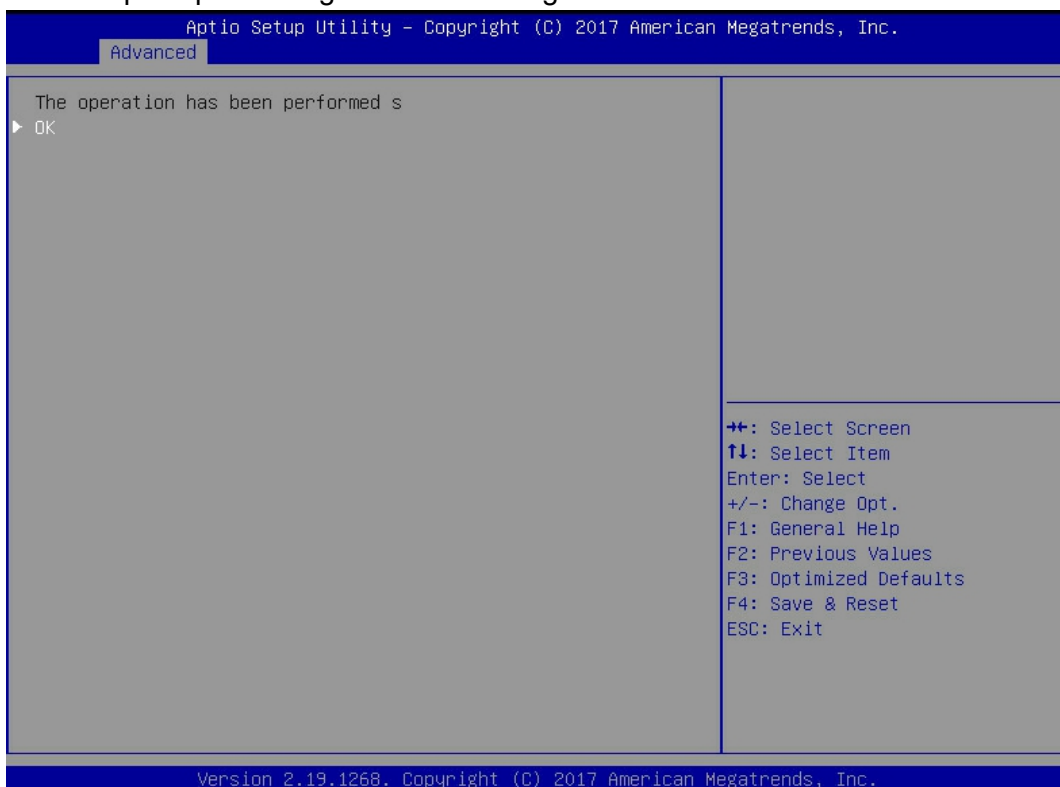

Figure 6-64
- e) Enter the interface shown in figure 6-64 to locate all the disk positions in the logical disk.
- ✧ Figure 6-64 complete positioning of all disks in logical drive